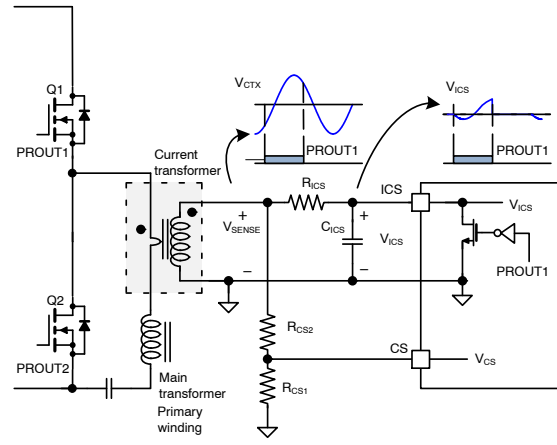

Figure 61. Current Sensing of NCP4390
NCP4390 senses instantaneous switch current and the integral of the switch current as illustrated in Figure 61. Since NCP4390 is located in the secondary side, it is typical to use a current transformer for sensing the primary side current. While the PROUT1 is LOW, the ICS pin is clamped at 0 V with an internal reset MOSFET. Conversely, while PROUT1 is high, the ICS pin is not clamped and the integral capacitor (CICS) is charged and discharged by the voltage difference between the sensing resistor voltage (VSENSE) and the ICS pin voltage. During normal operation, the voltage of the ICS pin is below 1.2 V since the power limit threshold is 1.2 V. The current sensing resistor and current transformer turns ratio should be designed such that the voltage across the current sensing resistor (VSENSE) is greater than 4 V at the full load condition. Therefore the current charging and discharging CICS should be almost proportional to the voltage across the current sensing resistor (VSENSE). Figure 62 compares the VICS signal and the ideal integral signal when the amplitude of VSENSE is 4 V. As can be seen, there is about 10% error in the VICS signal compared to the ideal integral signal, which is acceptable for most designs. If more accuracy of the VICS is required, the amplitude of VSENSE should be increased.
2. Over-Current Protection (OCP2): When  $V_{CS}$  is higher than 3.5 V or lower than -3.5 V, over-current protection (OCP2) is triggered. The instantaneous primary side current is also sensed on CS pin. Since the OCP2 thresholds on the CS pin are 3.5 V and -3.5 V as shown in Figure 66, the CS signal is typically obtained from  $V_{SENSE}$  by using a voltage divider as illustrated in Figure 61. 150 ns debounce time is also added for OCP2